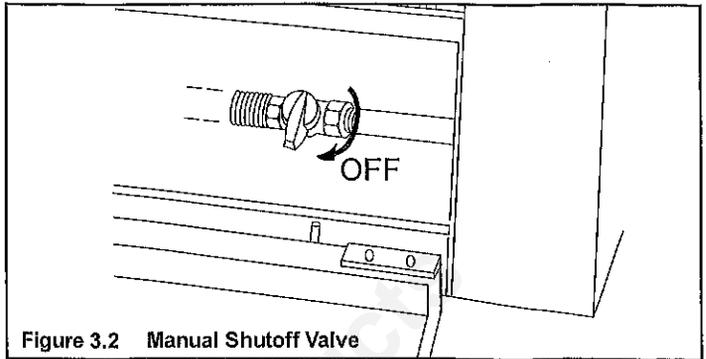

Figure 3.2 Manual Shutoff Valve
- To turn off the gas, locate the manual shutoff valve in the control area in the bottom of the appliance. Turn the manual shutoff valve so it is perpendicular to the gas line (Figure 3.2).